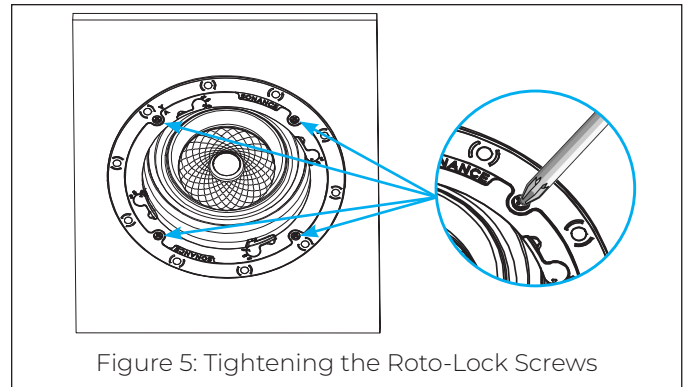

Figure 5: Tightening the Roto-Lock Screws
- Insert the speaker into the mounting hole and tighten the four screws on the front of the speaker baffle (see Figure 5).